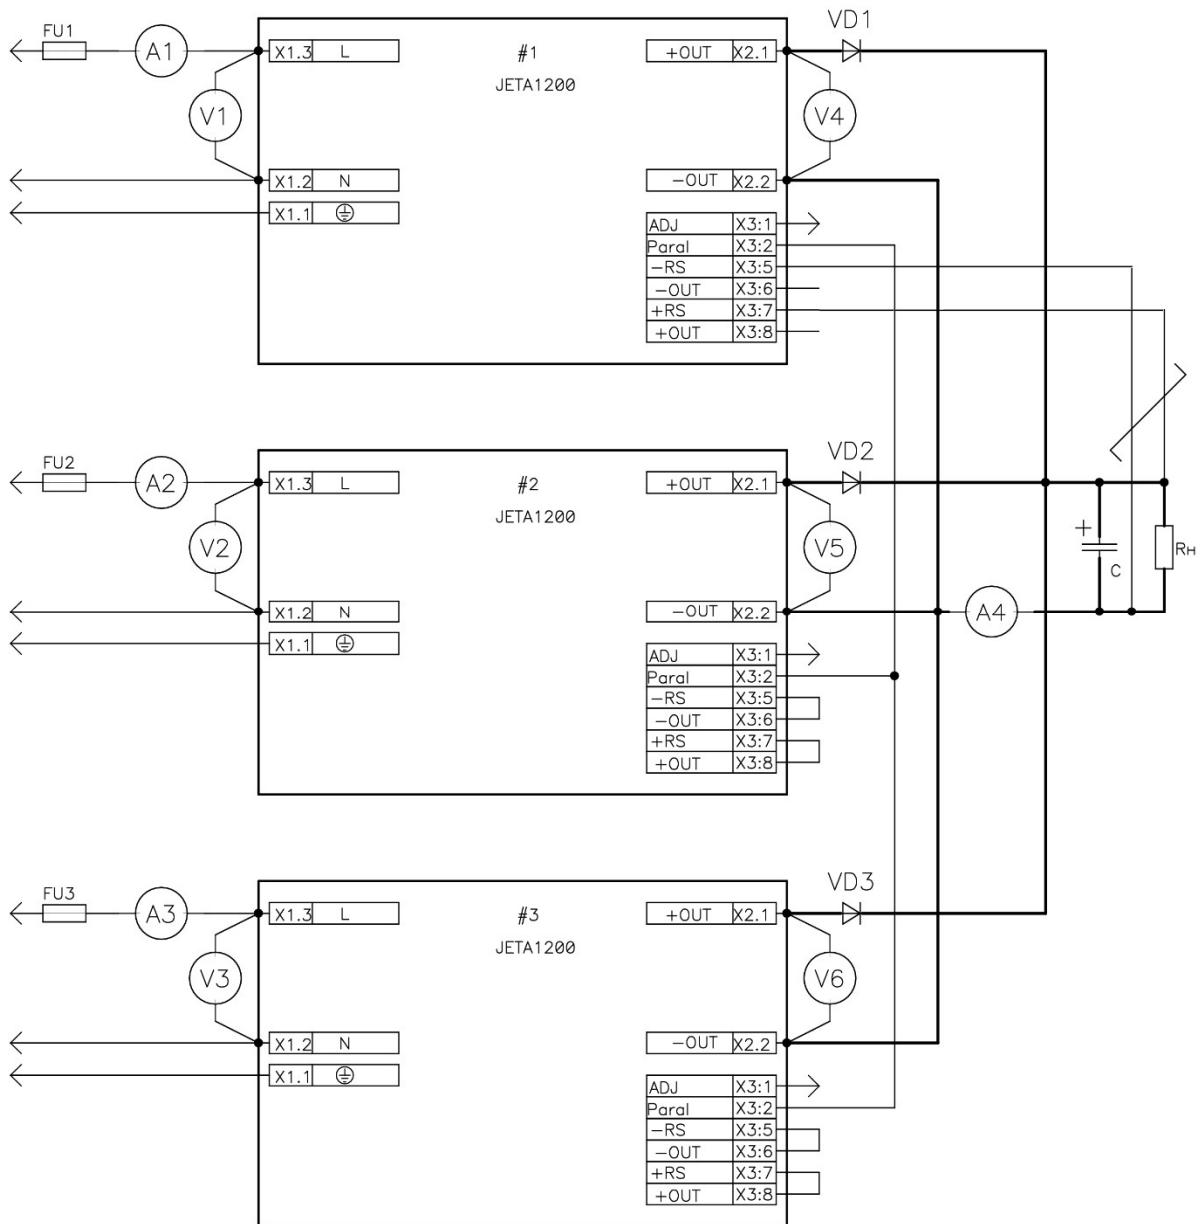

Fig. 5: connection scheme for parallel work in "master-slave" mode.
- When using backup system in "master-slave" mode (fig. 5), external feedback output pins "+RS" and "-RS" (following correct polarities), of "master" module, are connected directly to the load. The rest of the modules ("slaves") must have their "+RS" and "-RS" connected to their own "+OUT" and "-OUT" outputs respectively.